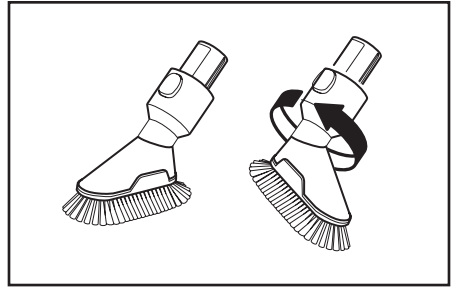

Fig. 6
- Rotate the Dusting Brush neck to clean hard-to-reach places (Fig. 6).